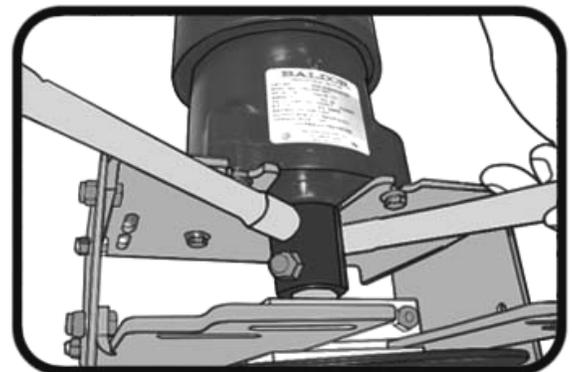

Fig. 4
**Step 3:** Use wrenches to remove the motor collar. **(Fig. 4)**